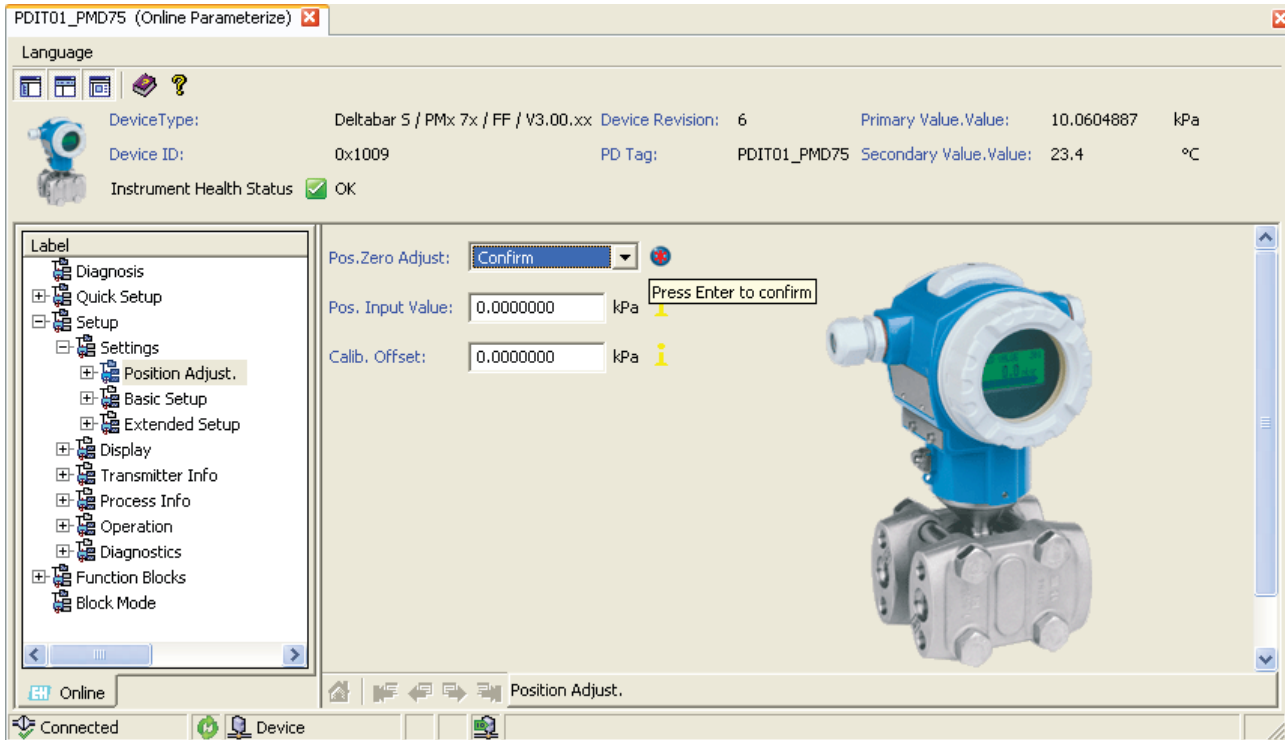

Figure 2-16. Position Adjust screen.
24. Go to *Setup ► Settings ► Position Adjust.* as shown in Figure 2-16. Select *Confirm* under *Pos. Zero Adjust* and press *Enter* to set the new zero.